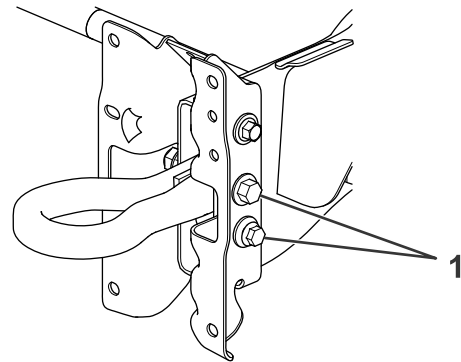

Figure 1
2. Remove the fasteners shown in Figure 1.